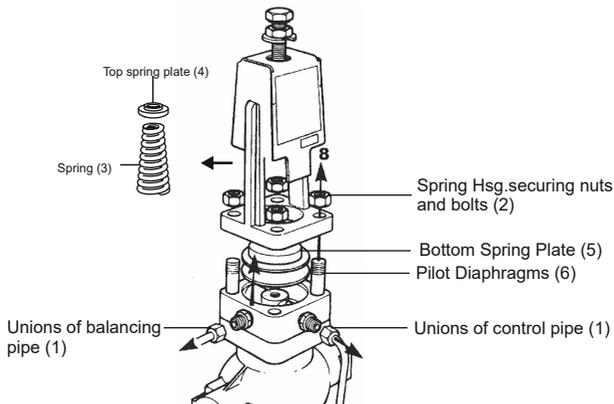

Figure 9 : Disassembling the pilot valve assembly
7.6. To renew the pilot valve assembly: (Refer to figures 9)